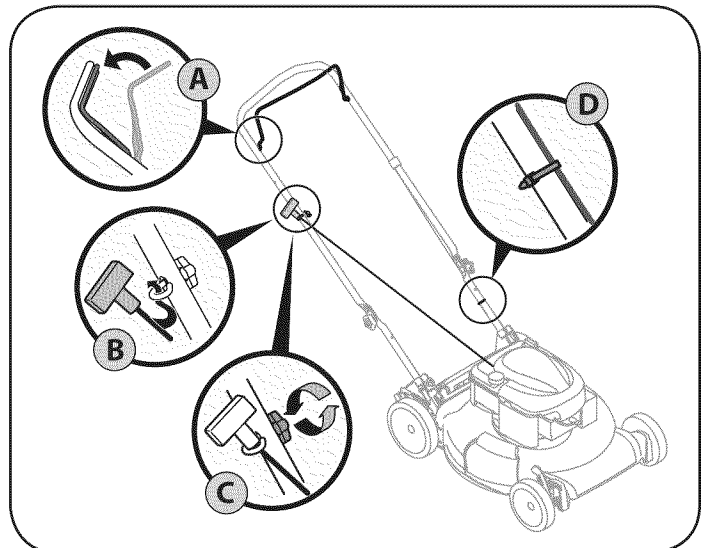

Figure 6
- The rope guide is attached to the right side of the upper handle. Loosen the wing knob which secures the rope guide. Refer to Figure 6.
- Slowly pull starter rope handle from engine and slip starter rope into the rope guide. See Figure 6.